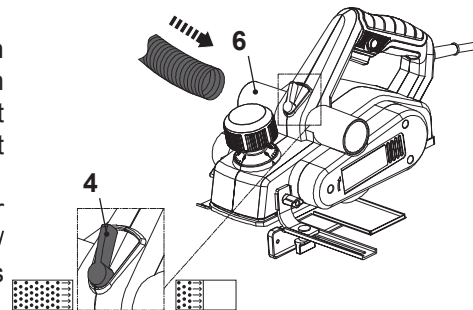

Fig. 2
1. Attach a proper dust extraction device, e.g. a suitable vacuum cleaner, to the dust extraction outlet (6) on either side of the product (Fig. 2).
2. Adjust the dust extraction crossover lever (4) to change the airflow right/left depending on the side that is chosen.